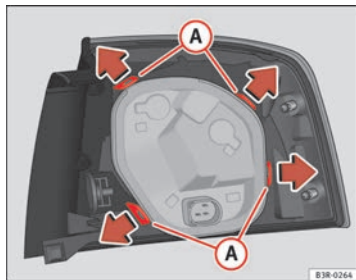

Fig. 226 Retaining tabs on reverse side of tail light
- Release the retaining tabs **A** ⇒ fig. 226.